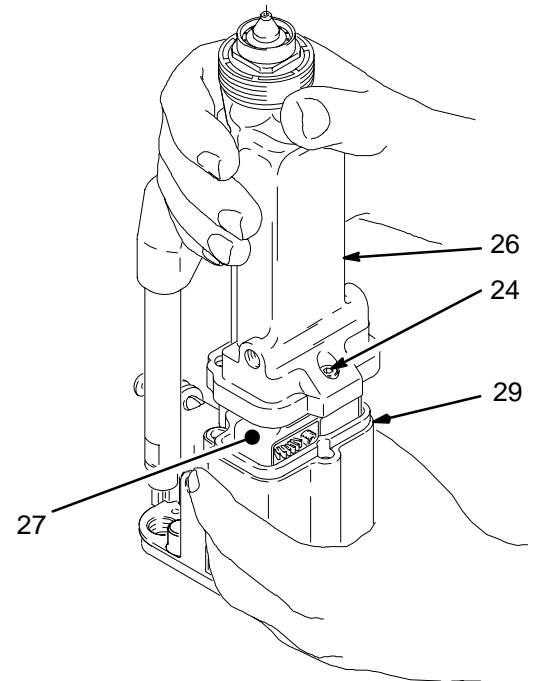

Fig. 37
5. Loosen the three screws (24) with the ball end wrench (77—not shown). See Fig. 37.
6. Hold the gun body (29) with one hand and pull the barrel (26) straight away from the body to remove it.